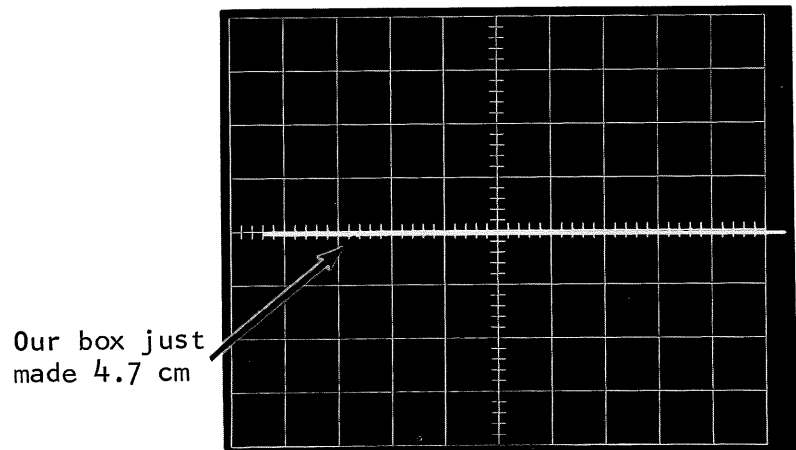

Figure 4-40
3. Set the DELAY full CW and check for 100 nsecs of delay  $\pm 12\%$  (5 cms  $\pm 3$  mm). See Figure 4-40.